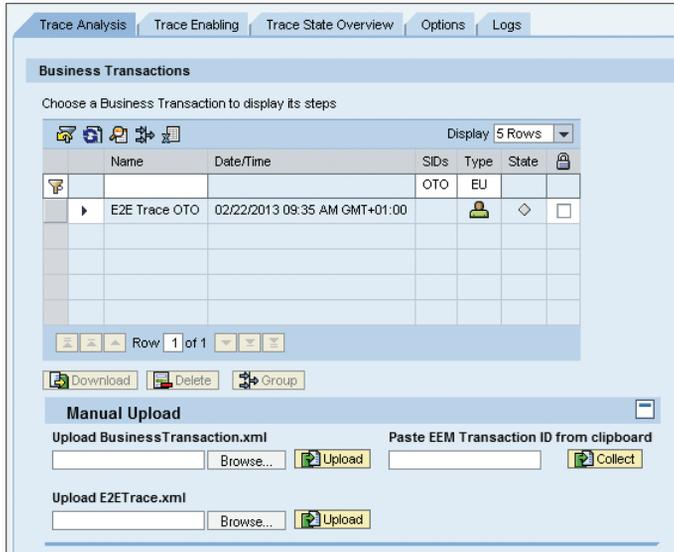

Figure 4.47 End-to-End Trace Analysis
If the connection between the end user and SAP Solution Manager is working correctly, the plug-in transfers the client's trace data to SAP Solution Manager. If you obtain an error message here, you can manually upload the data to end-to-end trace analysis. This is possible in the **MANUAL UPLOAD** area within end-to-end trace analysis in SAP Solution Manager (see Figure 4.47).
1. First, the trace information is collected from the landscape. To do this, start **END-TO-END TRACE ANALYSIS** in the **ROOT CAUSE ANALYSIS** work center. If the **TRACE ANALYSIS** tab is not already selected, select it now. The list displayed in the **BUSINESS TRANSACTIONS** area contains all previously performed end-to-end traces. The trace you have just performed should appear at the very top with the most recent time stamp in the **DATE/TIME** column and a gray status in the **STATE** column (see Figure 4.47). If this is not the case, go to the **MANUAL UPLOAD** area of end-to-end trace analysis and upload the file **BUSINESSTRANSACTION.XML** in the plug-in directory of the end user's PC.